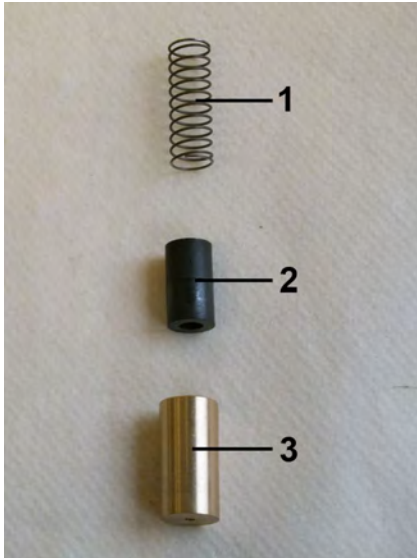

Fig. 23: Spring, magnets and float
4.  The inner parts of the flow monitor consist of the spring (Fig. 23/1), magnets (Fig. 23/2) and float (Fig. 23/3).